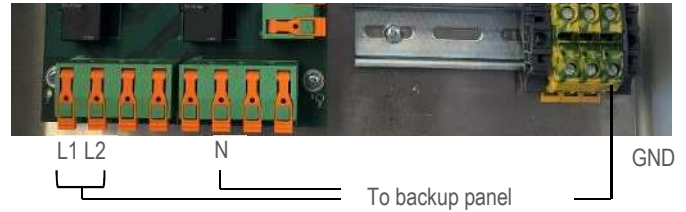

Figure 18: Backup panel connection.
Measure AC voltage at the load (backup panel connection) port. (L1-N, L2-N)	Figure 18
4. Measure voltages (L1-N, L2-N) at the Load terminals of the Evolve Hub (~120VAC).	Figure 18 Figure 14
5. Pull the AK1 terminal (will switch the automatic bypass switch off)	Figure 18